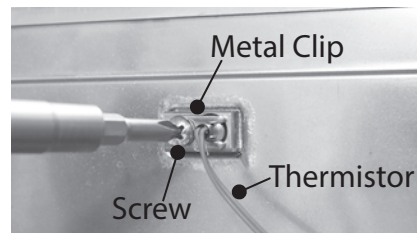

Figure 63 - Exhaust thermistor removal
**15** Locate the screw securing the exhaust thermistor. See Figure 63. Use a Phillips screwdriver to remove the screw. Place the screw aside in a safe place for reinstallation. Discard metal clip.
**20** Install the new exhaust thermistor in the water heater. See Figure 63. Secure with the new metal clip supplied in the kit and the screw removed in **Step 15**.